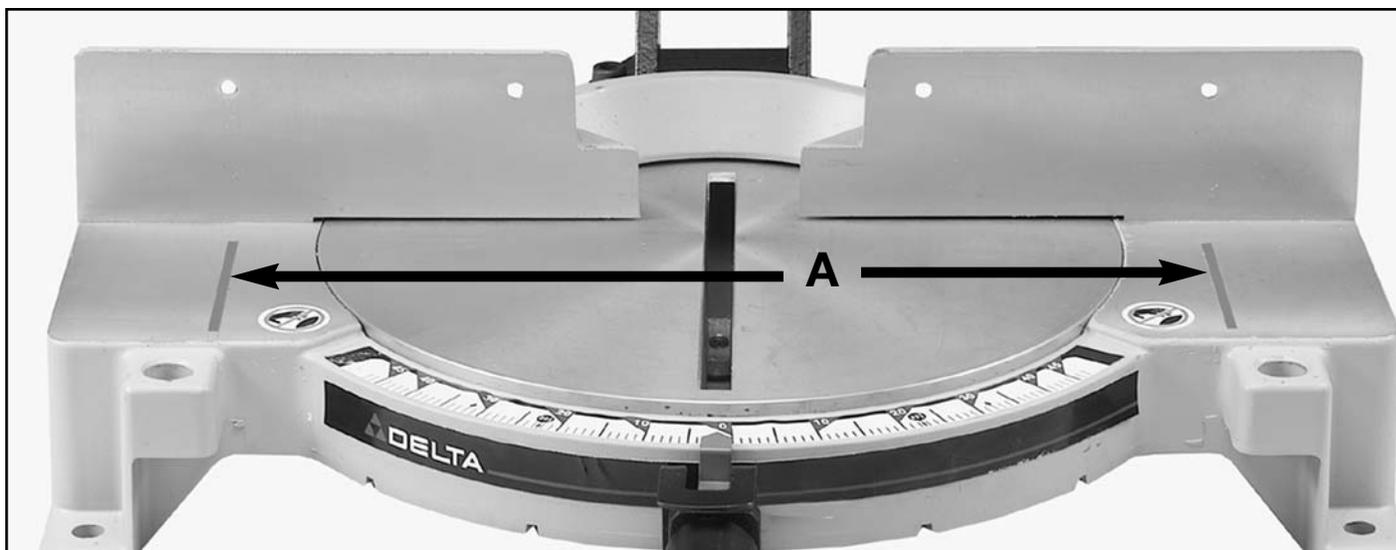

Fig. 50
⚠ WARNING: THE AREA INSIDE THE TWO RED LINES (A) FIG. 50, ON THE TABLE IS DESIGNATED AS A HAZARD ZONE. NEVER PLACE YOUR HANDS INSIDE THIS AREA WHILE THE TOOL IS BEING OPERATED.